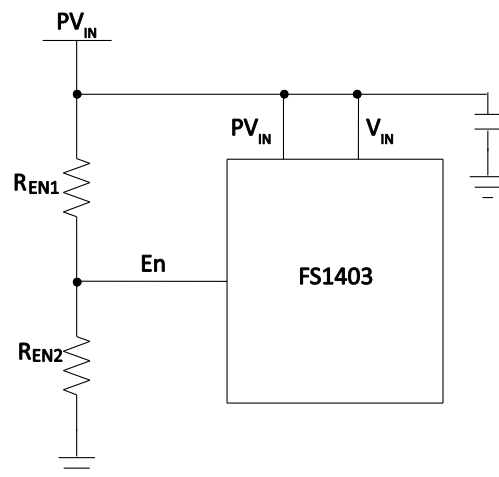
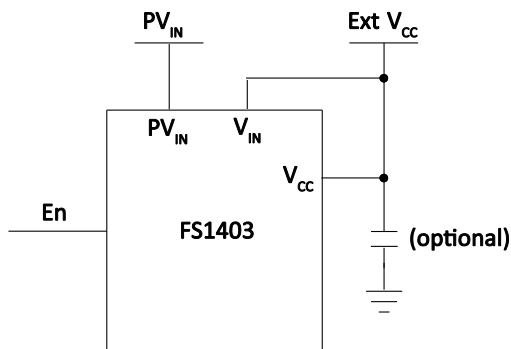

Figure 5 Single supply configuration: internal LDO regulator, adjustable PV_{IN_UVLO}
Figure 6 Using an external bias voltage
The FS1403 has an integrated Low Drop-Out (LDO) regulator, providing the DC bias voltage for the internal circuitry. The typical LDO regulator output voltage is 5.2V. For internally biased single-rail operation, the V_{IN} pin should be connected to the PV_{IN} pin (Figure 5). If an external bias voltage is used, the V_{IN} pin should be connected to the V_{CC} pin to bypass the internal LDO regulator (Figure 6).
- It can be used to implement a precise input voltage UVLO. The input of the En pin is derived from the PV_{IN} voltage by a set of resistive dividers, R_{EN1} and R_{EN2} (Figure 5). Users can program the UVLO threshold voltage by selecting different ratios. This is a useful feature that stops the FS1403 regulating when PV_{IN} is lower than the desired voltage.